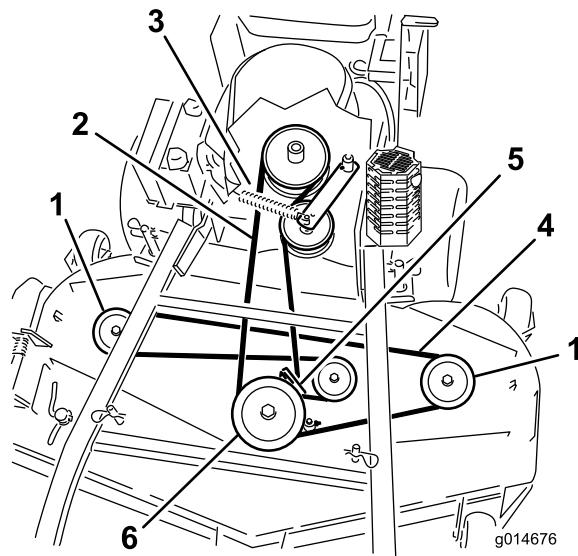
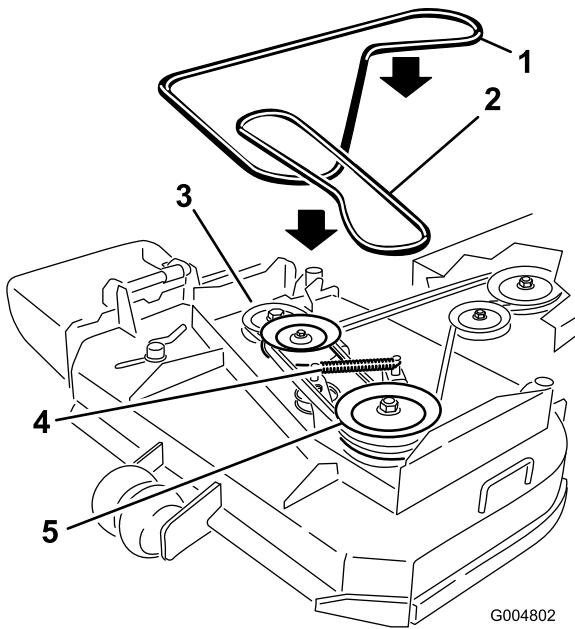

Figure 50
Figure 51
6. Disconnect the idler arm spring to relieve tension on the idler arm and idler pulley, then remove the worn mower belt (Figure 50 or Figure 51).
7. Install the new mower belt around the two outside spindle pulleys, the idler pulley, and in the lower groove of the double spindle pulley (Figure 50 or Figure 51).
8. Connect the idler arm spring (Figure 50 or Figure 51).
10. Adjust the belt guide an 1/8 inch (3 mm) from the belt (Figure 50 or Figure 51).